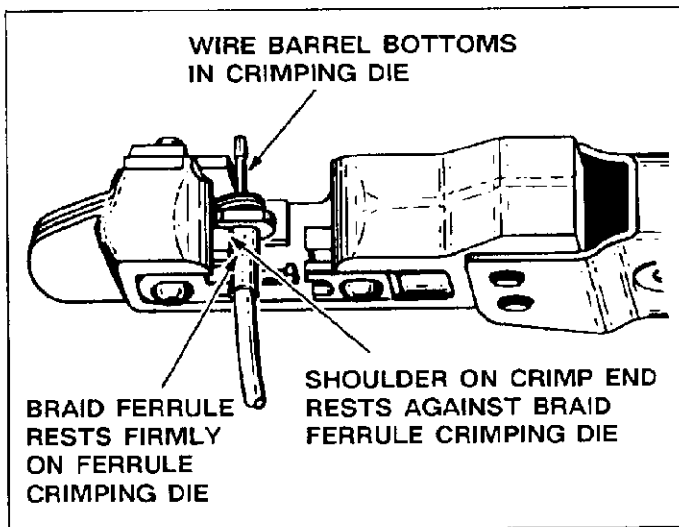

Fig. 10
2. Place the crimp end in crimping dies as shown in Figure 10.
3. Make certain that wire barrel and braid ferrule of crimp end are resting firmly on crimping dies. See Figure 10. Hold assembly in place and complete crimp.